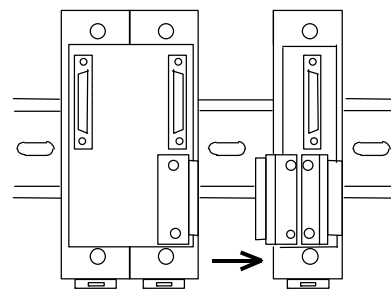

Figure 4
5. Slide connectors together to complete mother block installation. (Figure 4)